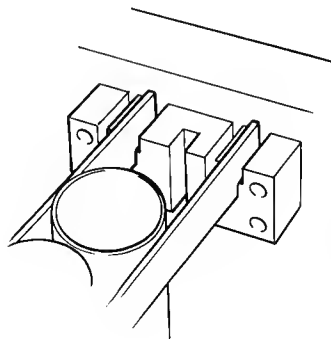
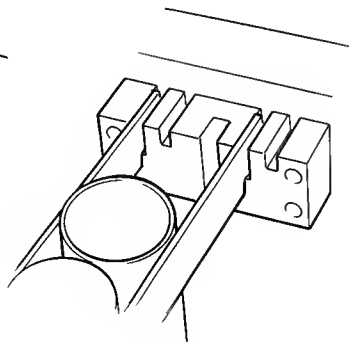

Fig 7
Fig 8
- ⑥ If the room temperature is higher than 22°C (72°F), place the resonators in the shallower groove. (Fig 7) If the room temperature is lower than 22°C (72°F) place them in the deeper groove. (Fig 8)
- ⑦ Check again that the suspension cord is tight and that the screws are securely fastened. If the tone bars are dirty, wipe them with a soft, dry cloth.